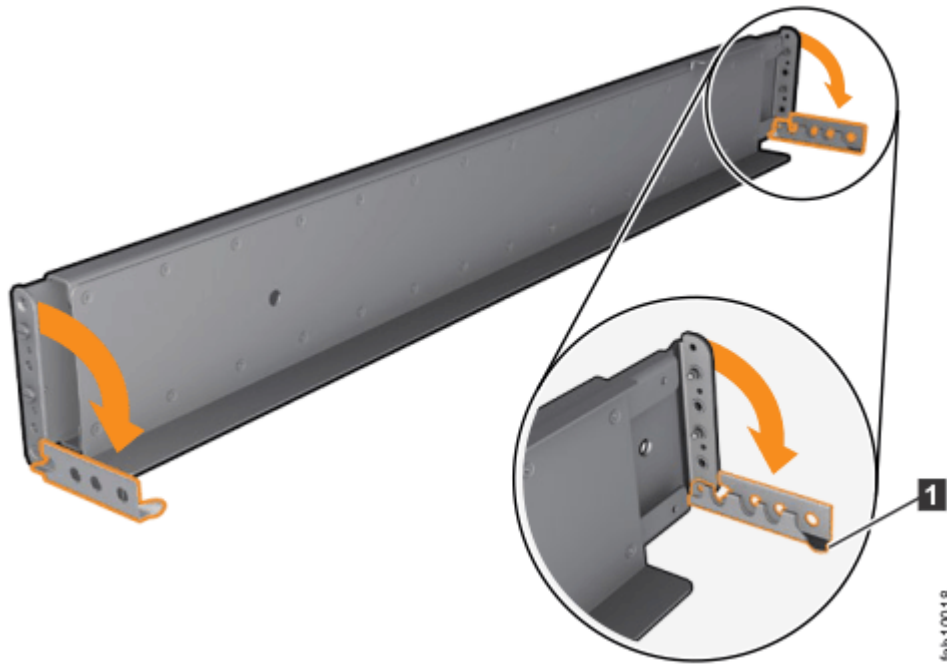

Figure 19. Opening the hinge brackets
6. At each end of the rail, grasp the tab **1** and pull *firmly* to open the hinge bracket (see Figure 19 on page 21).